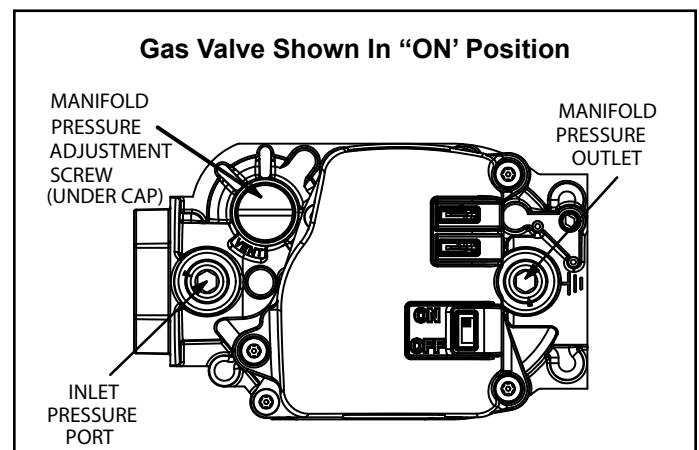

Figure 60.
See Figure 60
6. Move gas valve switch to OFF. See Figure 60.
8. Move gas valve switch to ON. See Figure 60.